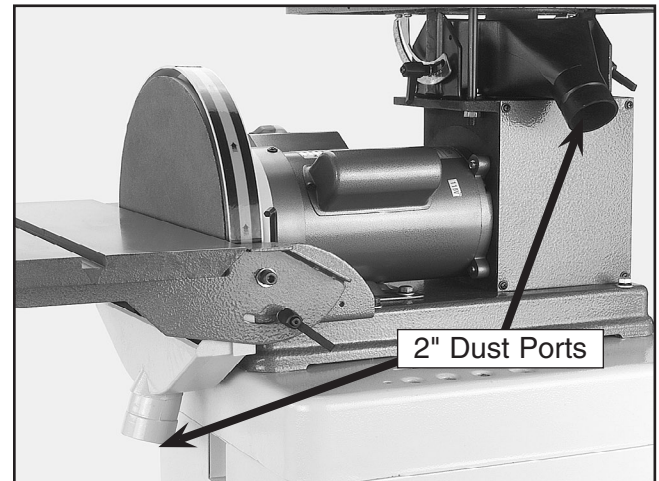

Figure 16. Dust port locations.
1. Insert the safety locking key shown in **Figure 16**.